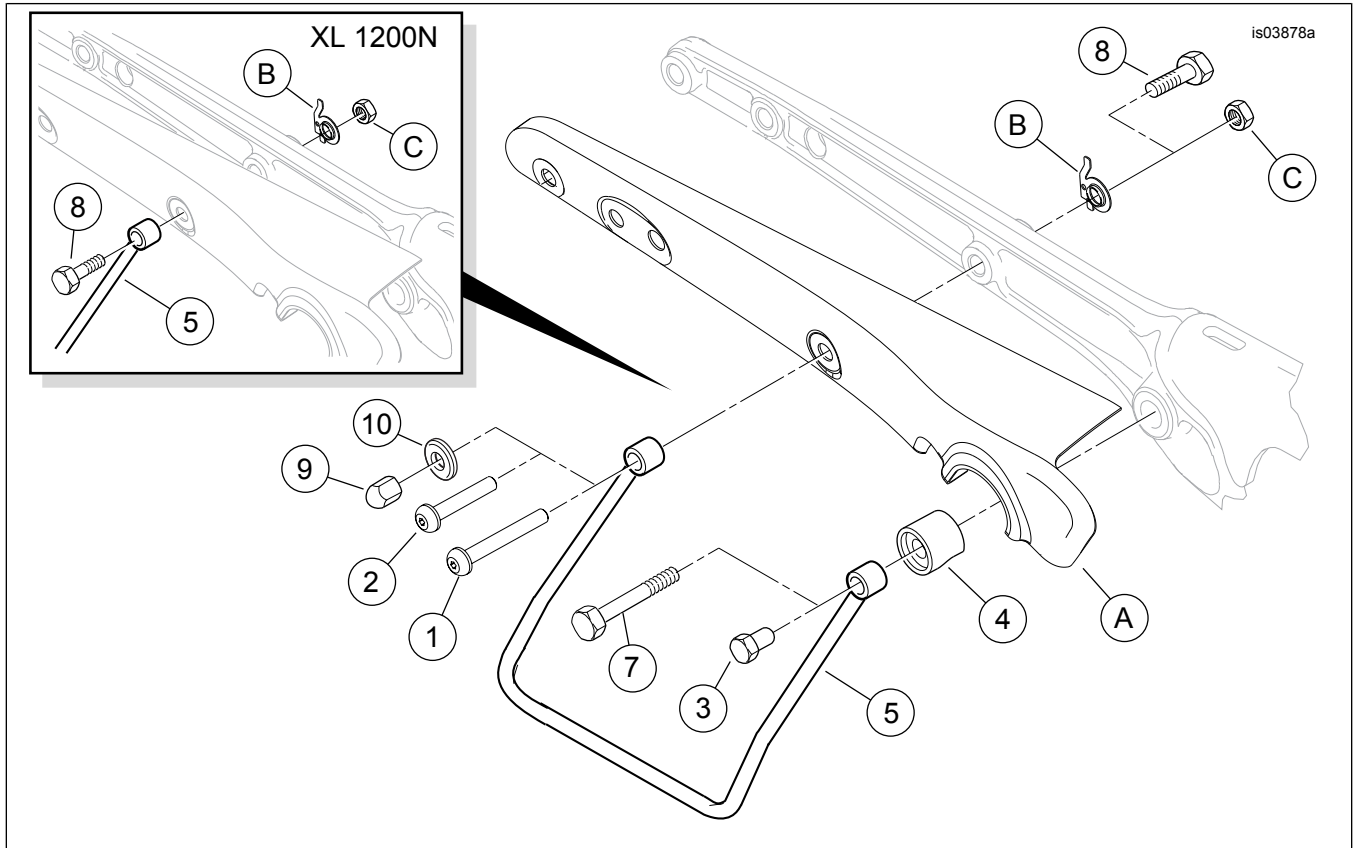

Figure 4. Service Parts, Saddlebag Support Kit
See Figure 4 and Table 1.
4. See Figure 4. Install a new shock absorber cover (4) from the kit over the shock absorber stud. Position the support bracket (5) with the front mounting hole over the shock absorber stud and the rear mounting hole over the hole in the fender support.
4. See Figure 4. Position the support bracket (5) with the front mounting hole over the shock absorber stud and the rear mounting hole over the hole in the fender support.